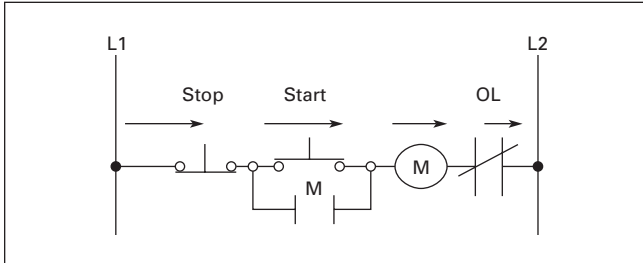

Figure 8. START Button Completes Circuit
When the START button is depressed (**Figure 8**), it completes the circuit to energize the coil of the starter. When that occurs, the Normally Open (NO) Auxiliary contact closes. This auxiliary is shown as | M on the line diagram.